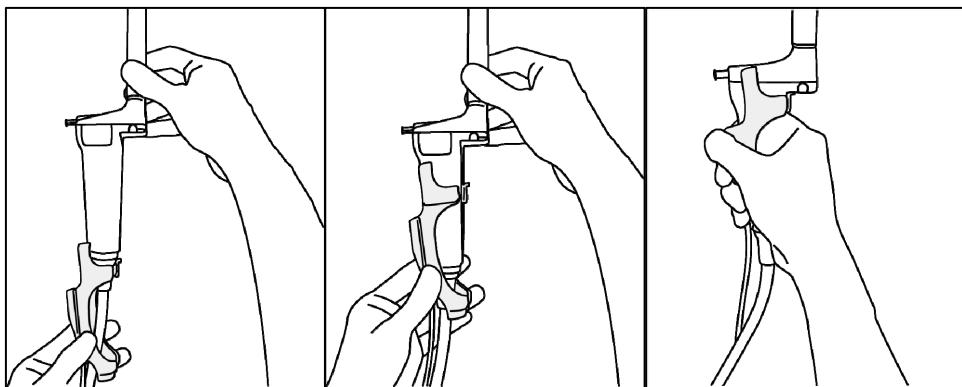

Fig.9 How to attach the Magnetic sensor attachment
- c) Attach the Magnetic sensor attachment to the probe as shown in Fig.9.